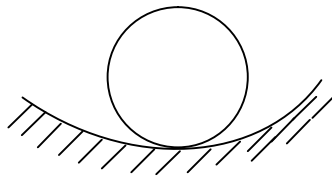

Figure 3
- Q5 a)** A cylinder of weight w and radius r rolls without slipping on a cylindrical surface of radius R , as shown in Figure 3. Determine the differential equation of motion for small oscillations about the lowest point and the natural frequency of oscillation. **(10)**